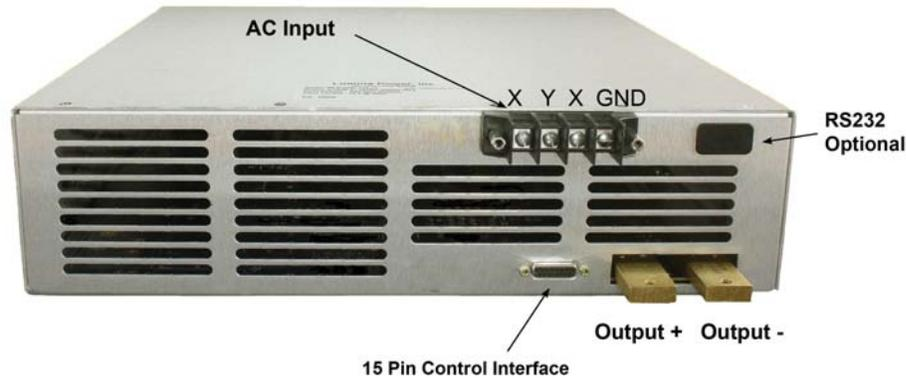

Figure 3
1. **CONNECTING TO DIODE LASER** Figure 3 shows the location of the LDD-6000 output terminals. Connect diode laser load to the output terminals. Although CW diode laser applications are generally free of voltage spikes associated with
- INTERFACE CONNECTION** Connect user interface to Analog Interface 15 pin D-sub connector shown in Figure 3. (Although this interface is typically designed by the user, Lumina Power can provide any assistance necessary to modify interface program and monitor levels) See Table 1 and related schematic for a description of the LDD-6000 Interface Pin-out.
- AC INPUT POWER CONNECTION** Connect AC power connections to power supply input power terminals as follows (refer to Table 2 and Figure 3.):
- AC Connections (#12AWG) are connected to the terminal strip connections shown in Figure 3.
- Ground wire (#12AWG) is connected to the terminal strip connections shown in Figure 3.